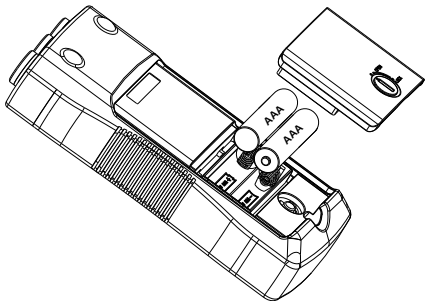

Figure 3: Replacing batteries
The PRM-6-EUR uses two 1.5 V AAA batteries (supplied). To replace the batteries, follow these steps and refer to Figure 3:
4. Replace the batteries as shown in Figure 3. Observe the battery polarity shown in the battery compartment.